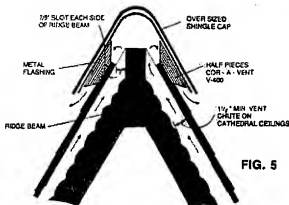

FIG. 5
* Note: This application would apply anytime the angle of the roof pitch necessitates separating Cor-A-Vent into 1/2 pieces in order to allow sufficient air passage for the vent to work, 1/2" minimum airway each side of ridge beam. See Fig. 5.